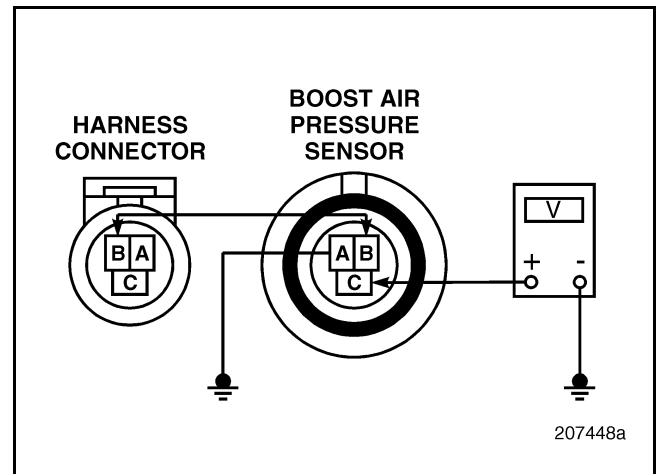

Figure 177
6. Measure the voltage between BAP Sensor pin C and a good ground at various pressures between 0 psi and 80 psi (see Figure 177). The correct pressure and output voltage specifications are shown in the table below.